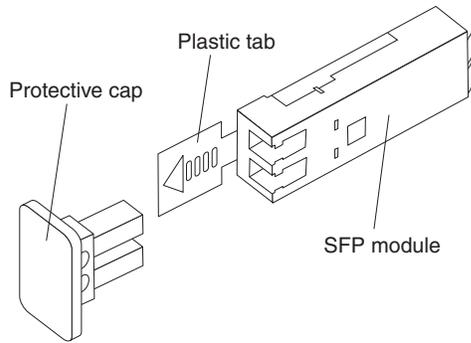

Figure 16. Small Form-Factor Pluggable (SFP) module
2. Remove the protective cap from the SFP module, as shown in Figure 16 on page 22. Save the protective cap for future use.
2. If necessary, remove the protective cap from the SFP module, as shown in Figure 16 on page 22. Save the protective cap for future use.